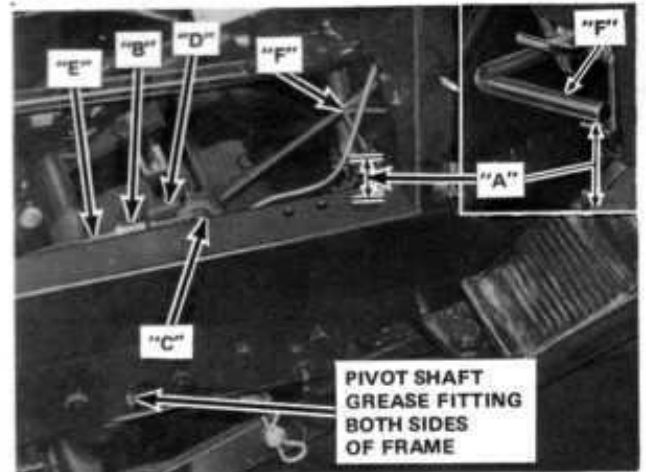
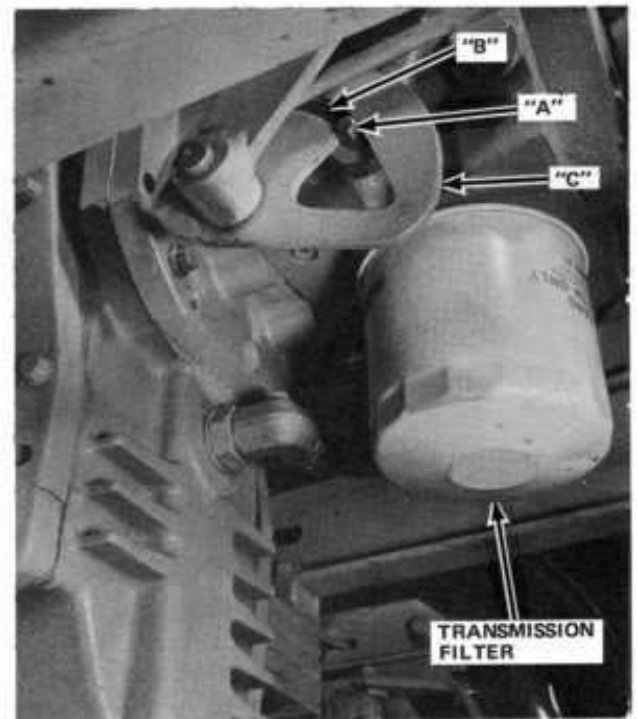

Figure 42
Figure 43
2. Depress the foot brake. When rod "F" Figure 42 is 1 to 1-1/4 inches from the top of frame rail at "A" Figure 42, pin "A" Figure 43 should just be in slot "B" of lever "C" as shown on Figure 43.
3. To adjust loosen hex nut "B" Figure 42. Remove pin "C" and turn clevis "D" either clockwise or counter-clockwise on rod "E" to obtain proper adjustment.
4. When adjustment is achieved replace pin "C" and lock with cotter pin. Lock clevis "D" with hex nut "B" Figure 42.